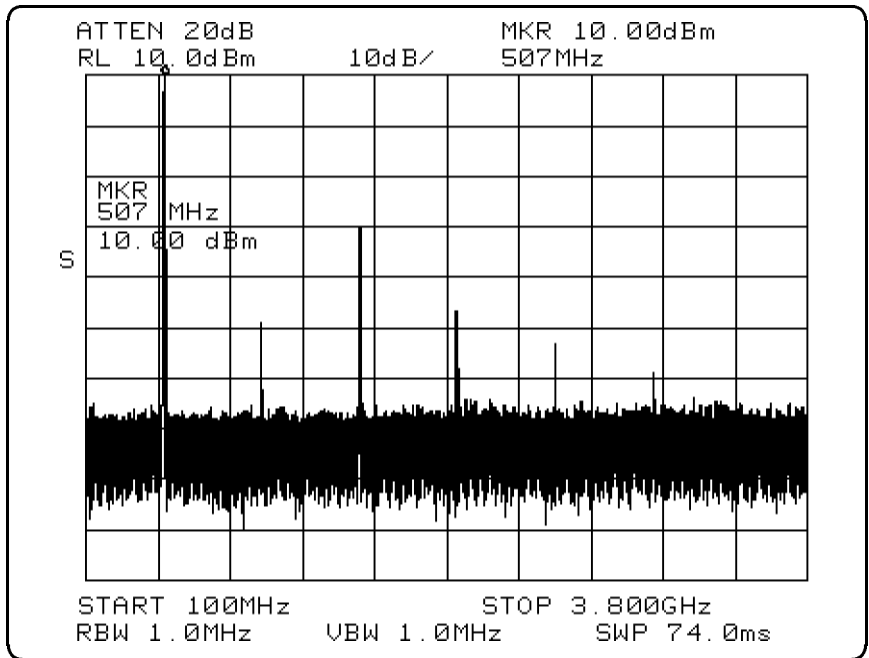

Figure 2-5. Typical Harmonic Measurement Spectrum Display
2. Set the signal generator and device under test to a CW frequency and power level that will show several harmonics within the frequency and power handling capabilities of the spectrum analyzer. Figure 2-5 shows an example of a typical spectrum analyzer display of a harmonic measurement.